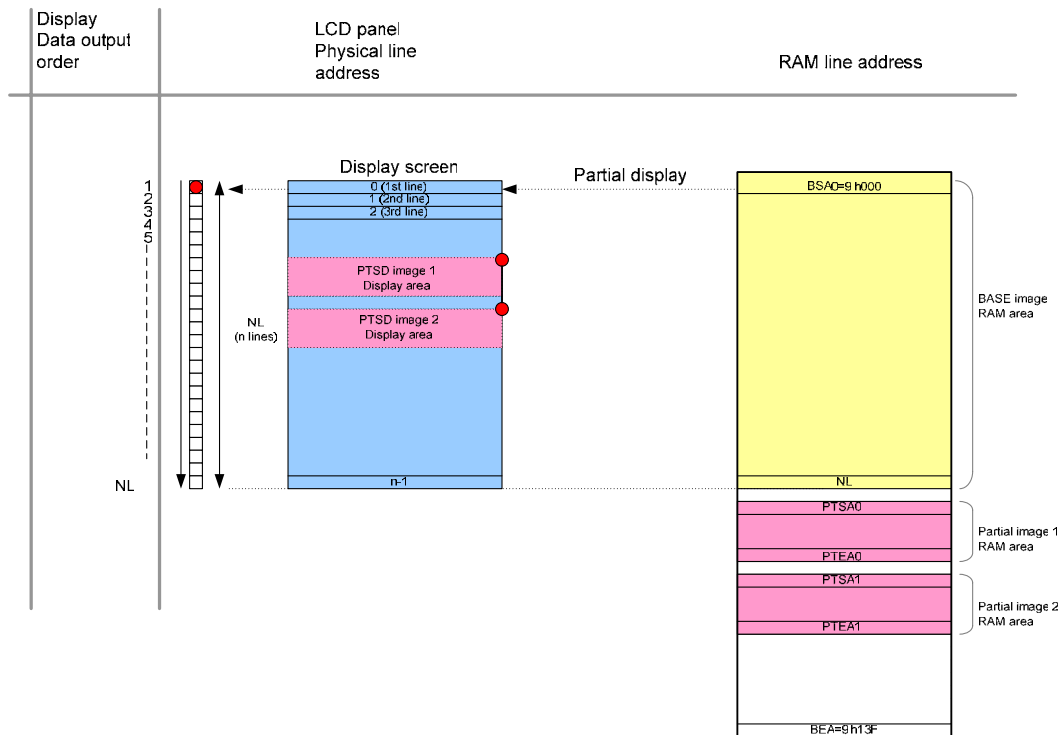

Figure 9-3 Example of NL[5:0] setting is < 6'h35 case
**Figure 9-3** indicated the case of NL[5:0] setting is < 6'h35 which active line is less than 432. Partial display image data can stored in not active area.